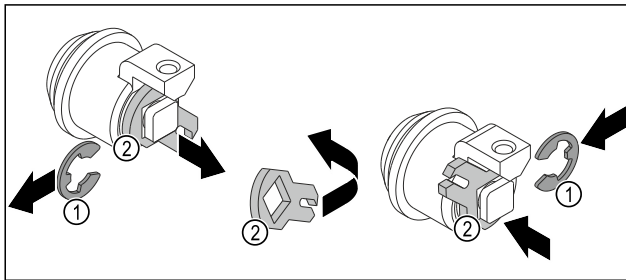

Fig. 15
- ▶ Remove the circlip Fig. 15 (1).
- ▶ Remove the locking hook Fig. 15 (2), turn it around and reinsert it.
- ▶ Insert the circlip Fig. 15 (1).